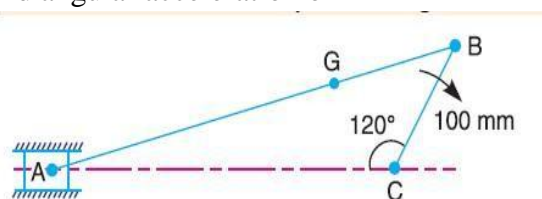

Fig. 8.5
6. An engine mechanism is shown in Fig. 8.5. The crank $CB = 100$ mm and the connecting rod $BA = 300$ mm with centre of gravity G , 100 mm from B . In the position shown, the crankshaft has a speed of 75 rad/s and an angular acceleration of 1200 rad/s². Find: 1. Velocity of G and angular velocity of AB , and 2. acceleration of G and angular acceleration of AB [10M]